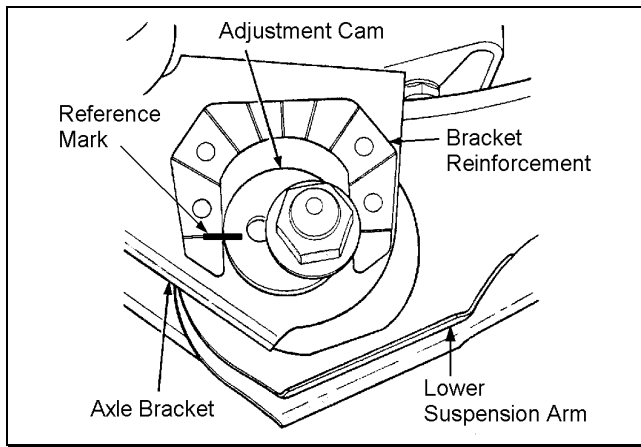

Figure 4
- 2) If applicable, paint or scribe alignment marks on the adjustment cams and axle brackets for installation reference. See Figure 4.